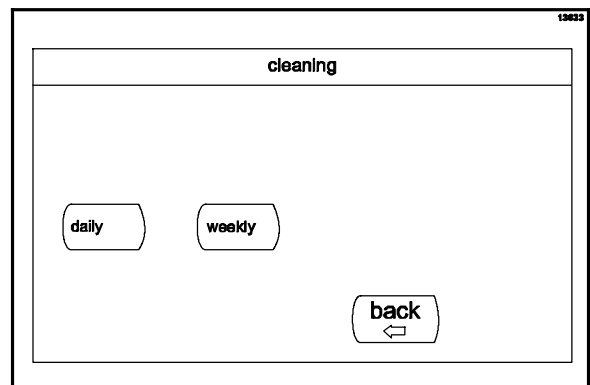

Figure 126
79. Press the NEXT key. The Cleaning screen will display. (See Figure 126.)